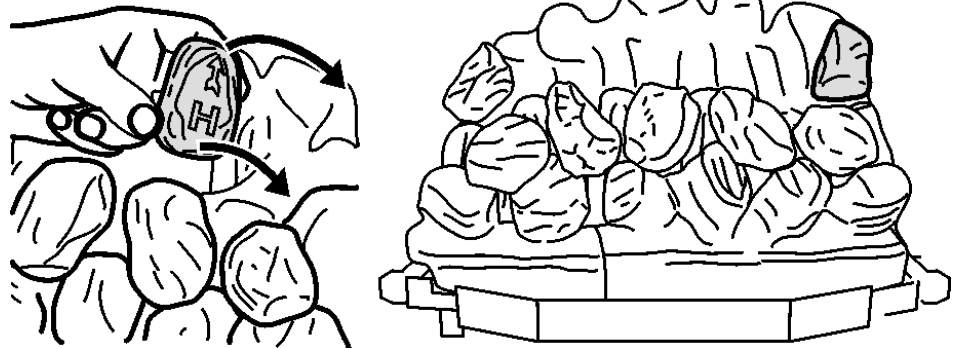

Figure 10. Third row "Coal H"
12. Hold coal 'H' upright with the arrow pointing to the top. Locate coal 'H' as shown in figure 10.